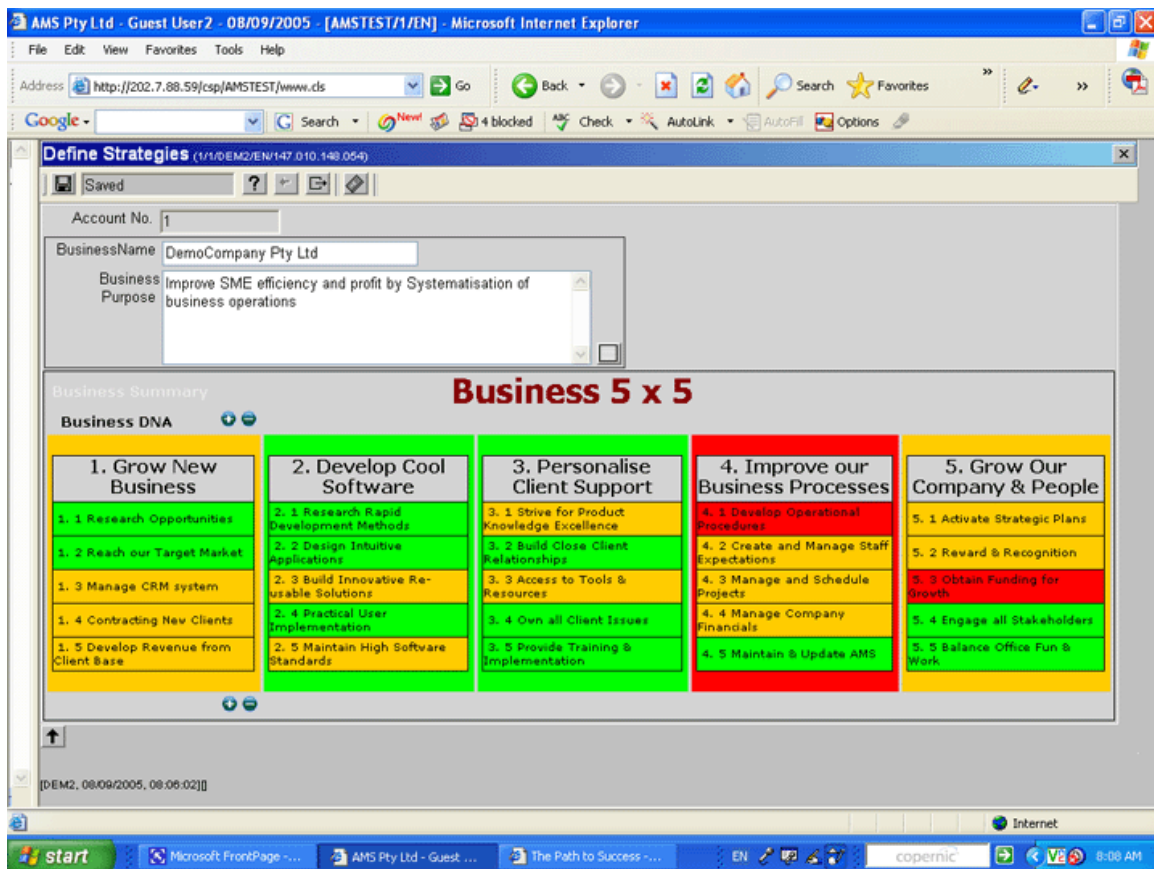
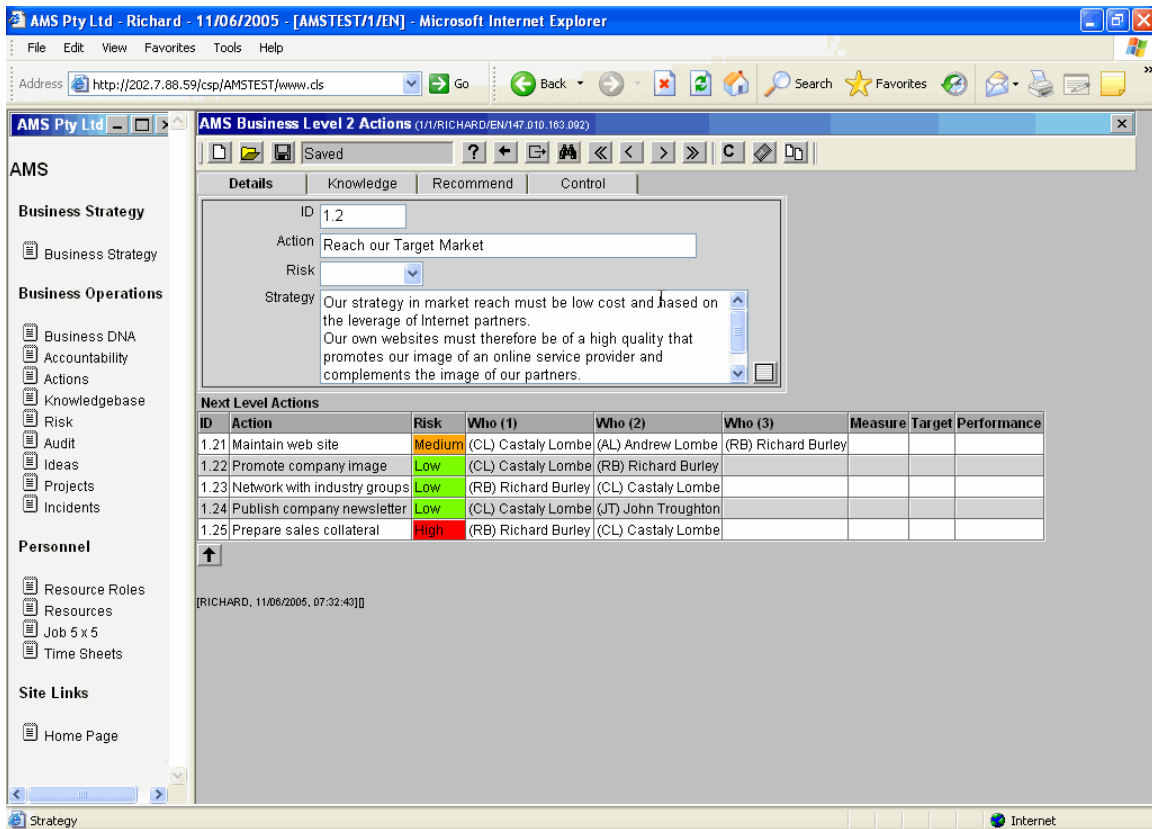

Fig. 1
Fig. 2
Initially this screen will be empty of data, so start at the top by entering the Business Name, and then defining the Business Purpose. After saving the business purpose then you simply click on the first Strategic Action (the top row one-digit numbered actions) in the above 5 x 5 Business Summary view (Fig.1 above). This will open the selected Strategic Action (see Fig. 2 below) and will also show the five (5) Level-2 Business Actions (two-digit numbered actions) that constitutes the key actions that make up the Level-1 Strategic Action.